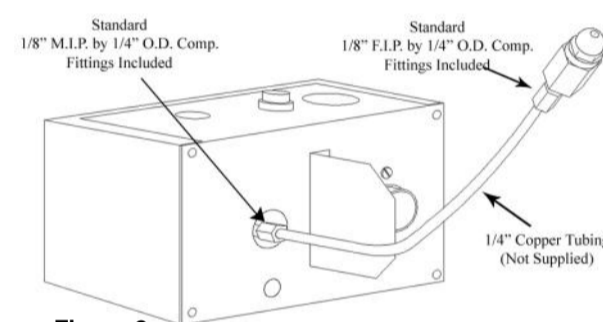

Figure 2
3.4 If it is necessary to mount the spray nozzle further away from the humidifier (in order to move the nozzle further into the air stream for better absorption), remove the nozzle adapter and 45° fitting from the solenoid valve. Use the fittings supplied in the parts bag to relocate the nozzle using 1/4" copper tubing (not supplied). (See Figure 2, below, left.) **CAUTION: Do not allow copper tubing to come in contact with sharp edges or surfaces that may cause wear on the tubing.**